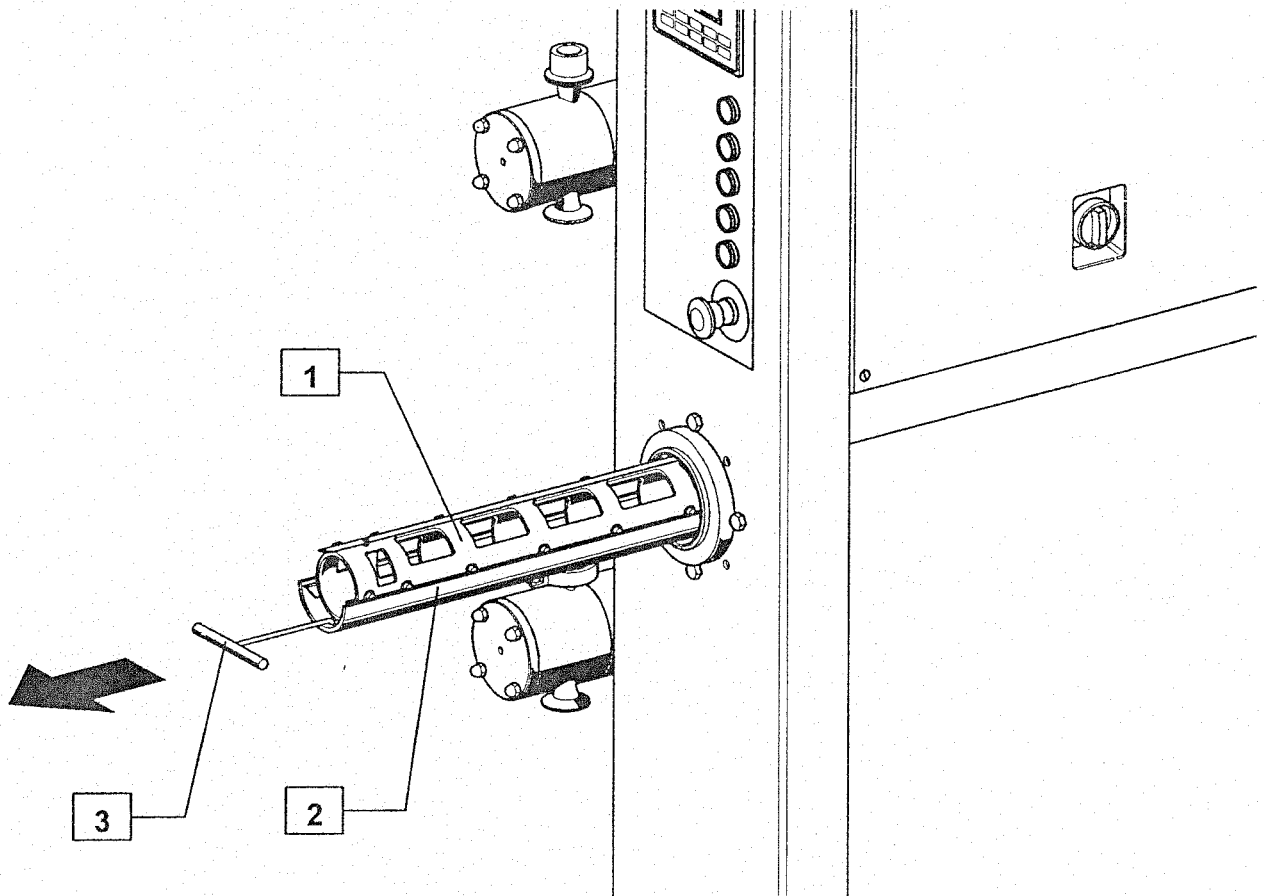

Fig. 7-12 – Dasher disassembly
- 4) Extract the dasher (Fig. 7-12 pos. 1) from the cooling cylinder using the proper cleat (Fig. 7-12 pos. 2) and the extracting tool (Fig. 7-12 pos. 3).